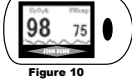

Figure 10
- Press the Power/Display Button once more; the screen will now show pulse as a hollow wave-form bar graph along bottom of screen, as shown in Figure 10.